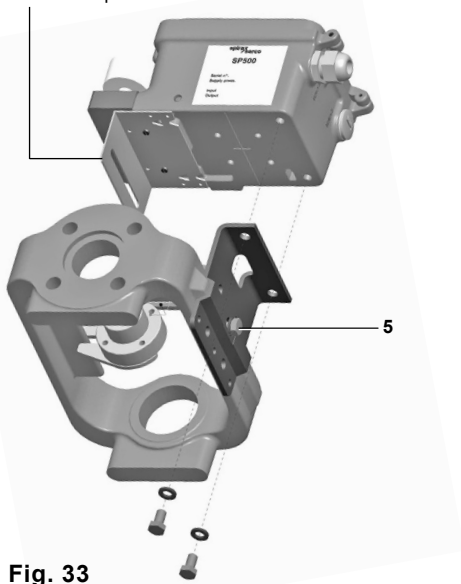
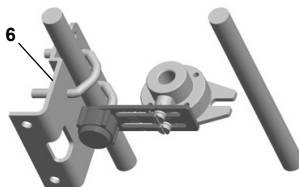

Fig. 33
Fig. 36
5.2.6 Attach the positioner mounting plate to the positioner as shown in Figures 33 and 34.
5.2.8 When the SP500 positioner and mounting plate assembly is correctly positioned, tighten the hexagon headed screw (5) on the yoke mounted actuator (Fig. 33) to 10 - 12 Nm and tighten the 'U'bolt nuts (6) on the pillar mounted actuators (Figure 36) to 10 - 12 Nm.